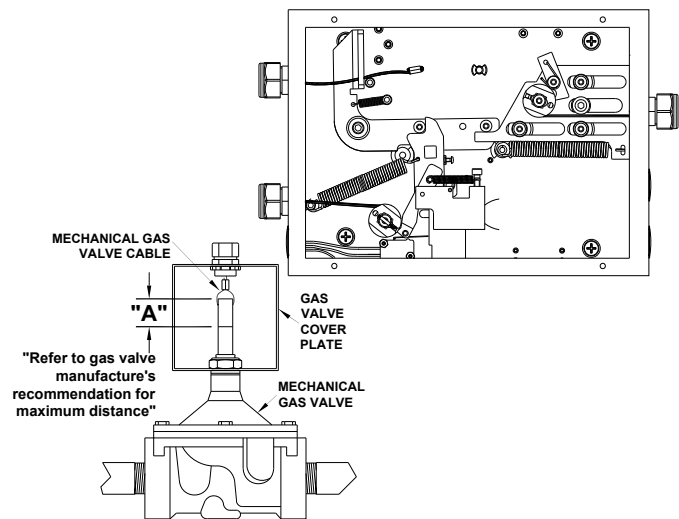

Figure 4-67.
6. Continue to turn spool clockwise until all slack has been removed and the Mechanical Gas Valve stem is fully extended, and the Gas Valve is in its full open position. Remove ratchet or wrench and check the Gas Valve to ensure that it is in its full open position. See **Figure 4-67**.